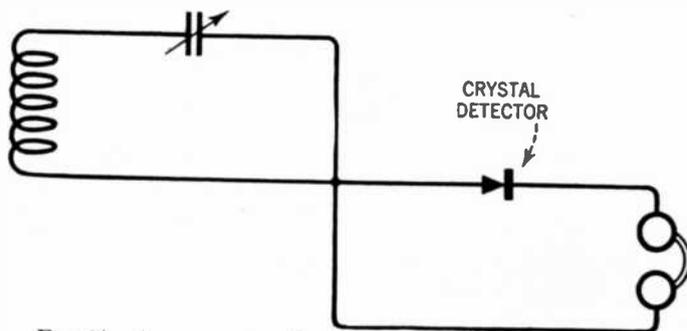

FIG. 64.—A wavemeter circuit employing a crystal detector.
*Answer.* (a) A wavemeter employing a crystal detector is shown in Figure 64.
*Answer.* Refer to Figure 64.